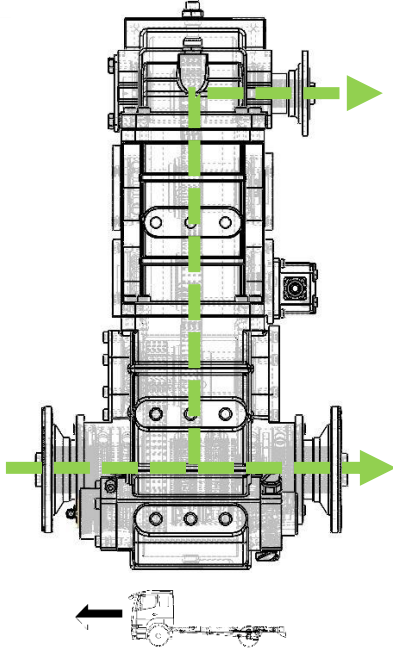
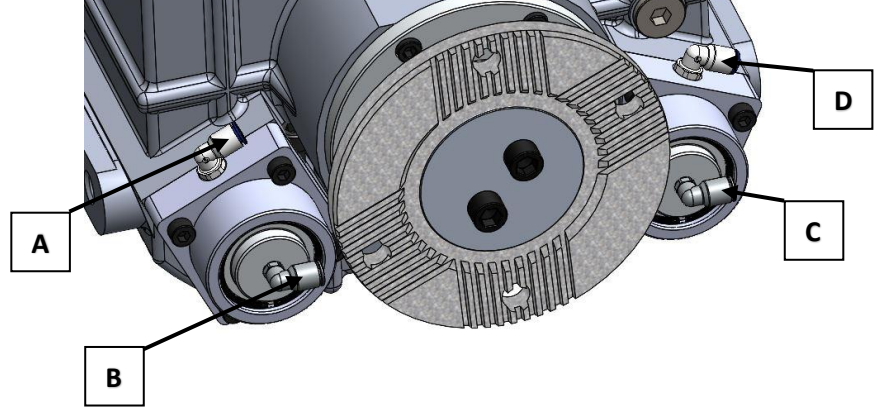

Figure 5
Figure 6
(Figure 5); First, air inlet (C) is activated. Then, air inlet (A) is activated. Air must be supplied continuously throughout the operation. (The air inlets are shown in Figure 6.)